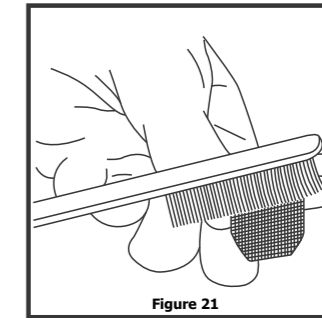

Figure 21
- b) Clean the retention grate using a brush (Figure 21).